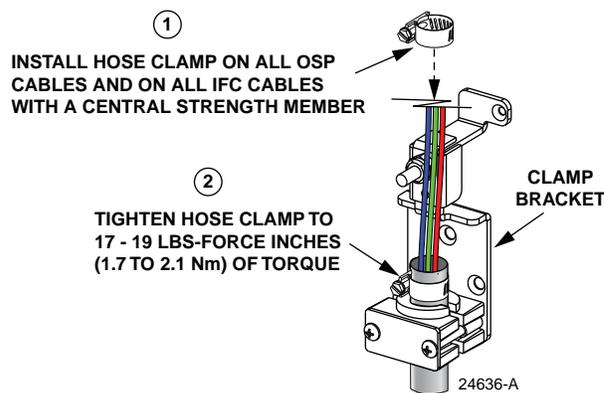

Figure 28. Hose Clamp Installation
11. If the feeder cable is an OSP cable, or an IFC cable with a central strength member, install a hose clamp (shipped with loose parts) over the end of the cable as shown in Figure 28.
13. If a hose clamp was placed over the cable in step 11 (see Figure 28), tighten the hose clamp to 17 to 19 lbs-force inches (1.7 – 2.1 Nm) of torque.